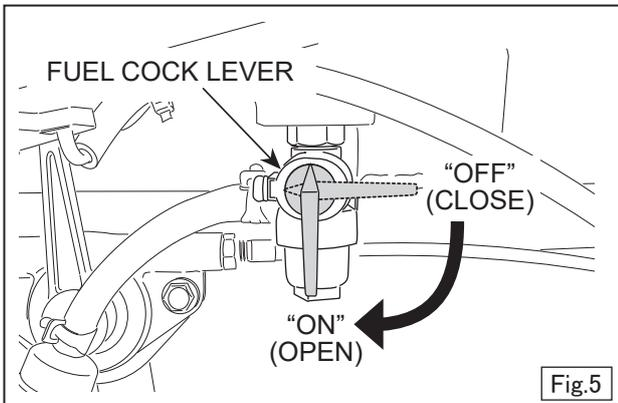

Fig.5
1. Set the fuel cock lever to the "ON" position to let the fuel flow. (Fig. 5)